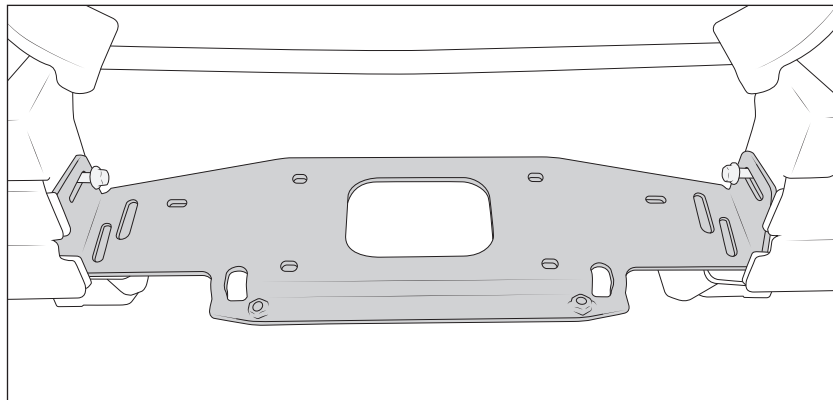

Figure 11
2. Install the winch plate to the frame in the orientation shown (fig. 11). Use factory M10 bolts to loosely bolt winch plate through AEV bumper brackets and into the frame weld nuts.